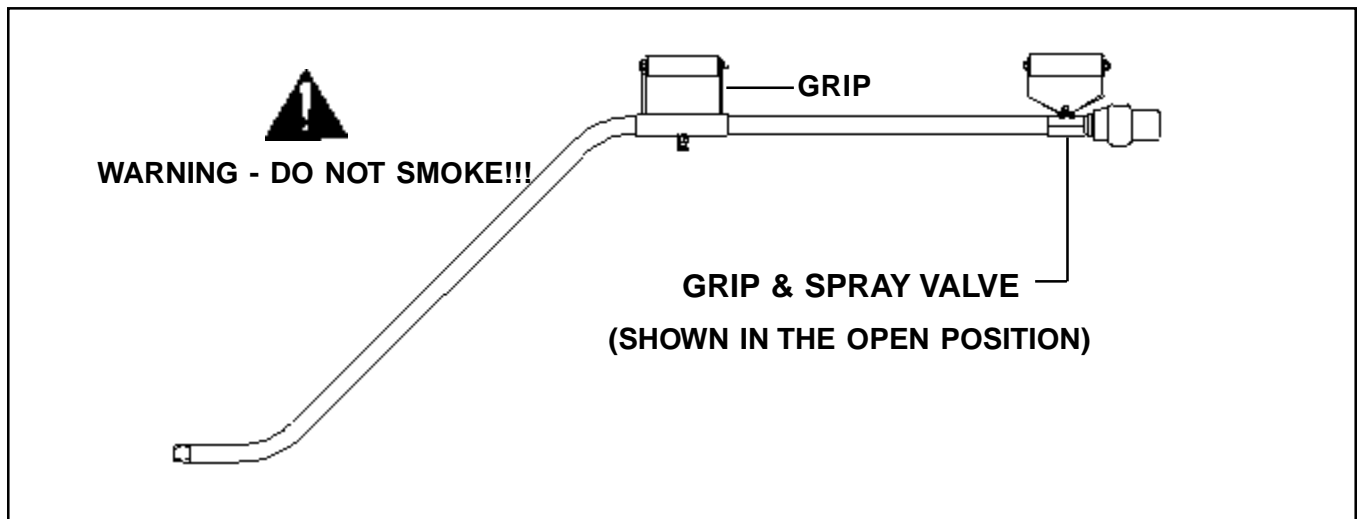

FIGURE 15 - Handspray Wand
6. Hold the spray wand firmly by the hand grips (Figure 15). The grips are designed to remain cool while the hot asphalt flows through the wand.